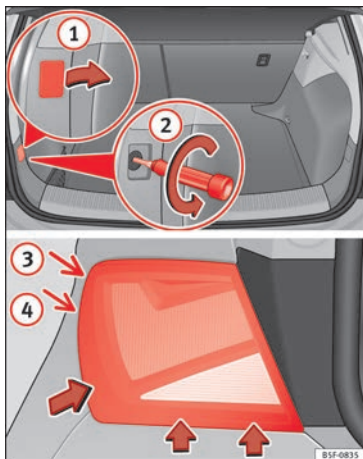

Fig. 112 Luggage compartment: location of the bolt securing the tail light unit. Remove the rear light unit from side panel.
- Remove the cover by prying the flat side of a screwdriver into the recess and remove the cover from the opening » **Fig. 112 ①**.
- Carefully loosen the screw located behind the cover with a screwdriver, turning it anti-clockwise (arrows) » **Fig. 112 ②**.
- Tilt the light in the direction of the arrows until it comes out of its housing (positions **③** and **④**) » **Fig. 112**.